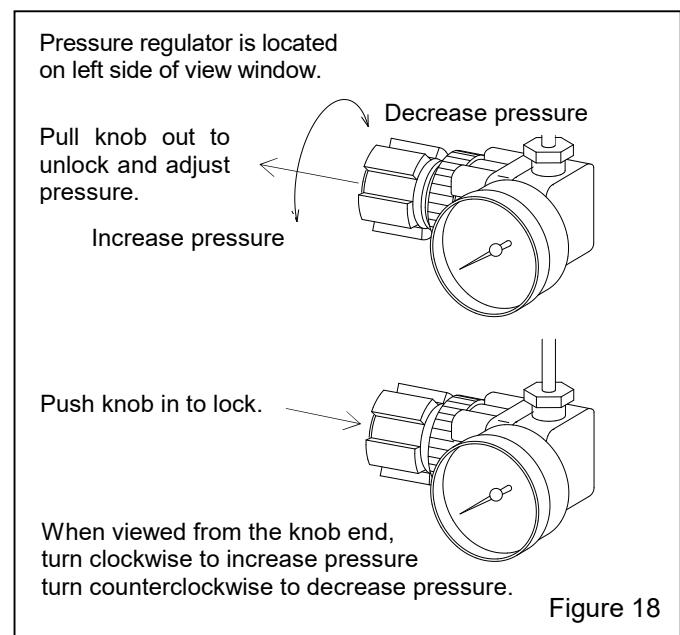

Figure 18
5.1.3 Pressure registers on the gauge only while blasting. To adjust pressure, begin blasting and hold the nozzle securely with the right hand. Use the left hand to unlock the knob by pulling it out, as shown in Figure 18, Turn it clockwise to increase pressure or counterclockwise to decrease pressure. Once operating pressure is set, push the knob in to lock it and maintain the setting. **NOTE: The operator may find it easier to adjust pressure if the knob is unlocked before blasting and when pressure is set, stop blasting to lock the knob.**